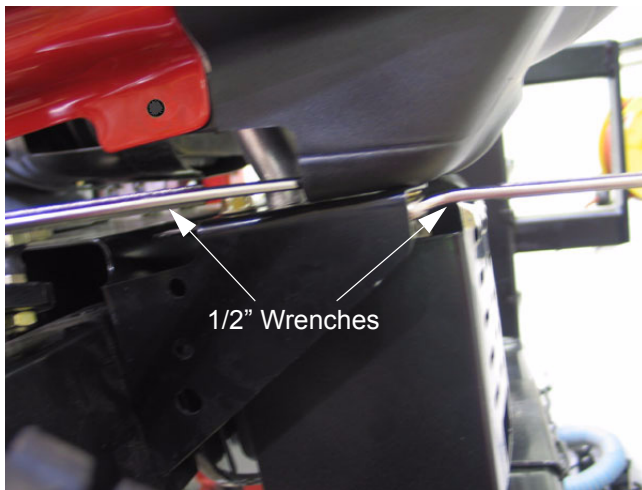

Figure 16.5
- 16.5. Remove the front screws securing the grille with two 1/2" wrenches. See Figure 16.5.